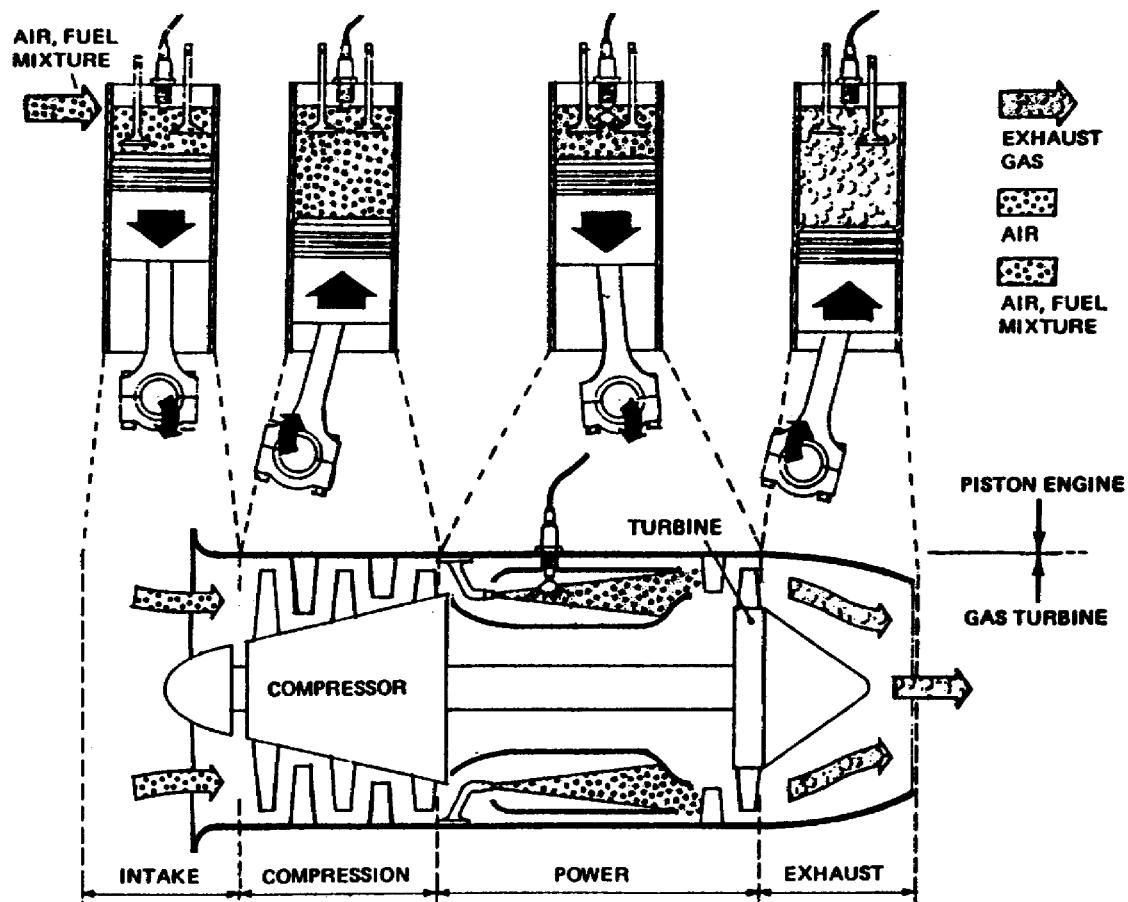

Figure 1-18. Comparison of Piston Engine to Turbine Engine.
(3) Cycle Characteristics and Variations. The four-stroke/cycle piston-type engine is designed to perform four events: intake, compression, power, and exhaust. One cycle (four events) is completed as the crankshaft rotates twice for a total of 720 degrees. Each event is completed within 180 degrees of crankshaft rotation and is called a stroke. Gas turbine engine operation consists of four events that are essentially the same as the reciprocating engine. Air is first drawn through the air inlet section that relates to the intake event. It then passes through the compressor section, relating to the compression event. The air then enters the combustor, mixes with fuel, and is ignited. As the air-fuel mixture burns, the pressure increase is directed through the turbines that extract work from the flowing gases which relates to the power event. Passing through the turbines, the used gases are exhausted to the atmosphere, relating to the exhaust event. Figure 1-18 illustrates the comparison of events between the four-stroke/cycle piston-type engine and the gas turbine.